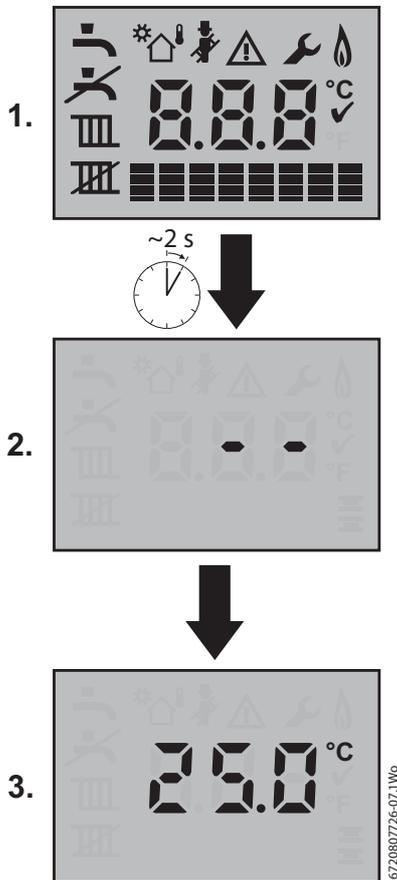

Fig. 57 Boiler start up screen
- ▶ Turn on the mains power supply, initially the “Boiler start up screens” will be displayed (refer to figure 57).